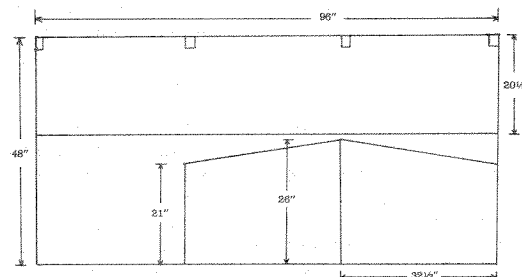
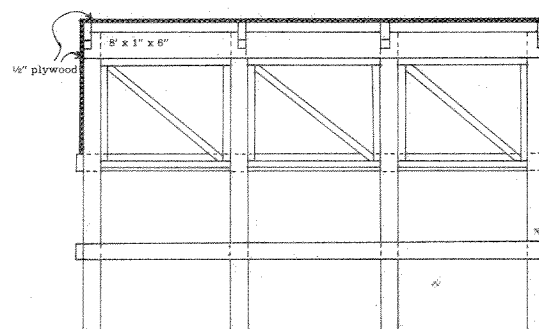

Figure 6: Plywood cutting layout showing dimensions for back and sides of hutch.
Figure 7: Front view of hutch showing entire construction.
- 5) One complete sheet of plywood is used for the roof and the other plywood sheet cut for the back and sides (as indicated in Figure 6). The back piece should be notched to hold the overhanging roof beams. The 8' x 1" x 6" (2.4 m x 2.5 cm x 15 cm) is also notched and nailed to the front legs under the roof (Figure 7).